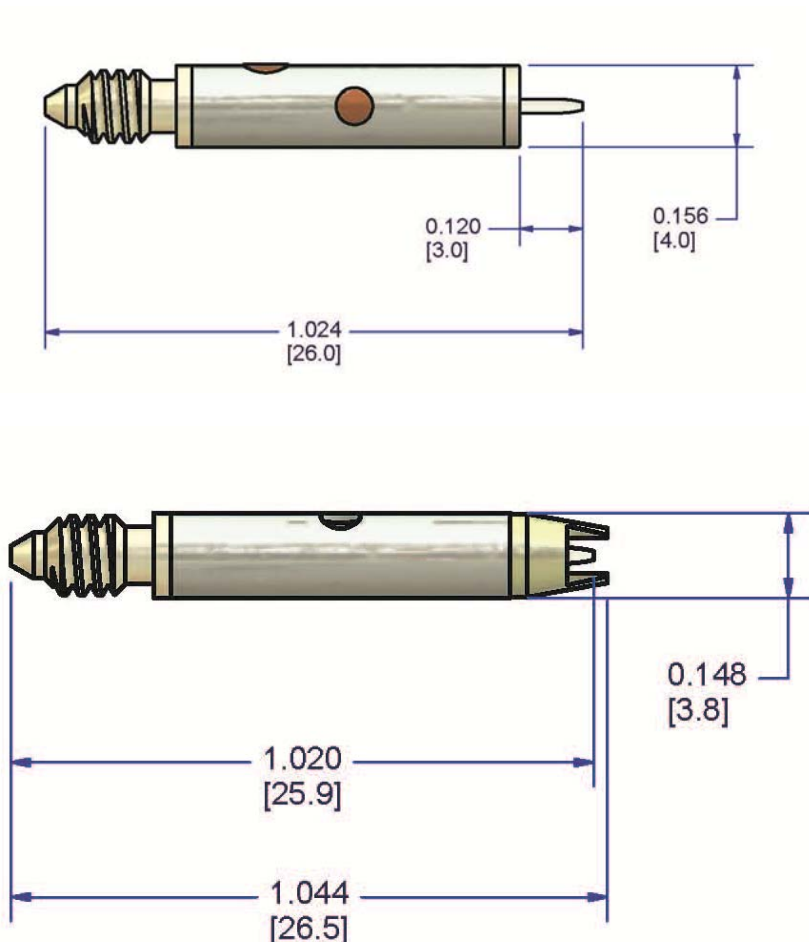

Figure 1 MJ-AT-01 (top) and MJ-ATP-01 (bottom) physical dimensions (in inches)
- Physical dimensions are shown in Figure 1.